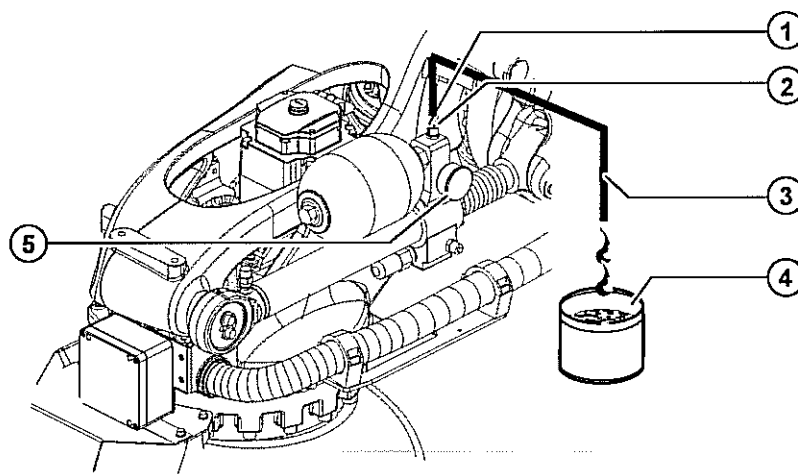

Fig. 11-2: Draining the hydraulic oil
2. Remove the screw cap and connect the tube to the vent connection (>>> Fig. 11-2).